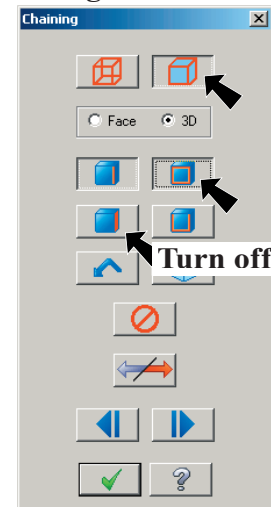

Fig. 59
Step 10. Click the **Solids** button  in the Chaining dialog box, **Fig. 59**.
Step 11. **Turn off Face**  button and keep **Loop** button  on in the Chaining dialog box, **Fig. 59**.